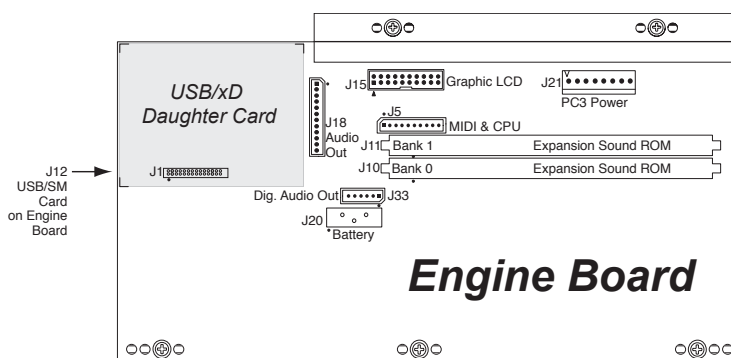

Figure 3-14 Engine Board, screw locations
2. Align the center screw hole on the front panel edge with the thread marks in the extrusion and install the three screws that secure the front panel edge. See Figure 3-14.